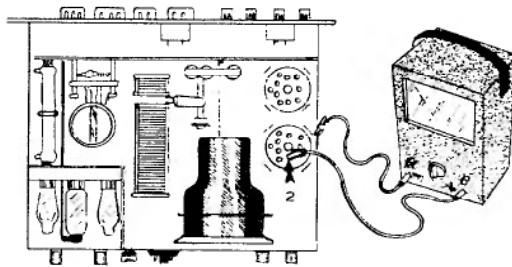

Figure 35E
- ( ) Referring to test setup in Figure 35E, connect the negative lead of a Volt-Ohm-Milliammeter to the KL-1 chassis. Using an insulated probe, place the probe (positive lead) in pin 2 or 4 of either 4-400A tube socket. Note that there are air holes in the socket which contain no pins. Actual socket pins are numbered according to the insert. Set the meter on its 5000 DC volt scale.